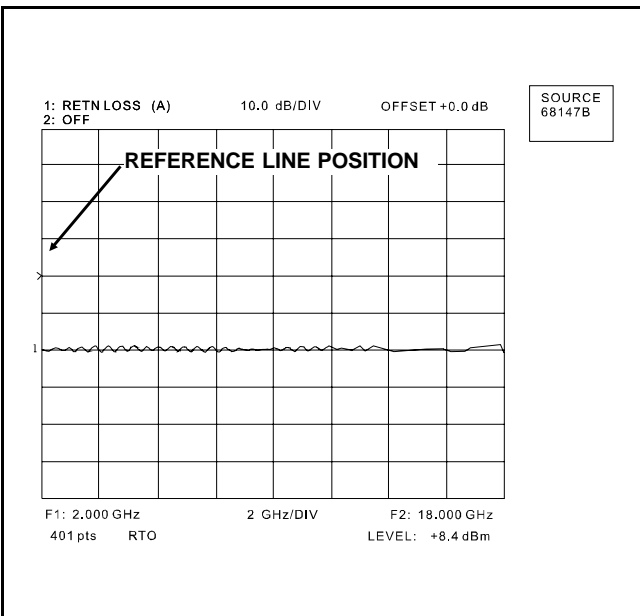

Figure 8. Reference Line Position
13. Using the Data Entry knob, set the reference line to the fourth graticule line from the top of the display (Figure 8).